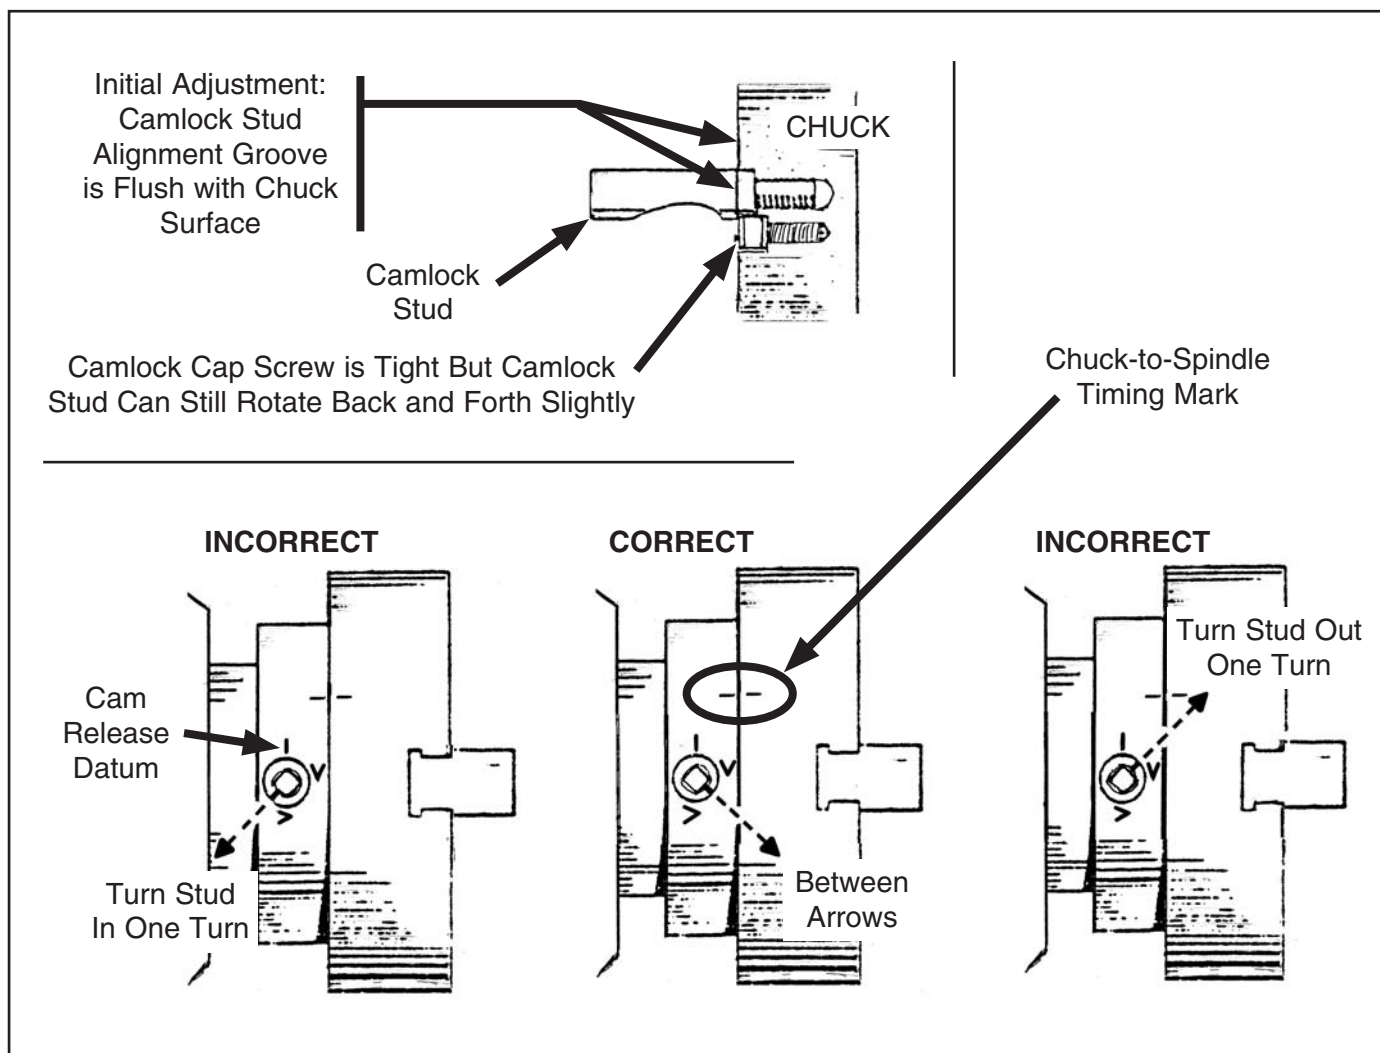

Figure 19. Camlock stud alignment.
6. Align the chuck-to-spindle timing marks (**Figure 19**), and slide the chuck onto the spindle.
In order to properly install or adjust one or more camlock studs, you must remove a stud locking cap screw, then thread the camlock stud in or out until the line on the side of the stud is flush with the top of the chuck casting (**Figure 19**). This is an initial adjustment.
If this is the case, you will have to remove the chuck and fine-tune the camlock stud adjustment. See **Figure 19** for which direction to turn the camlock studs.